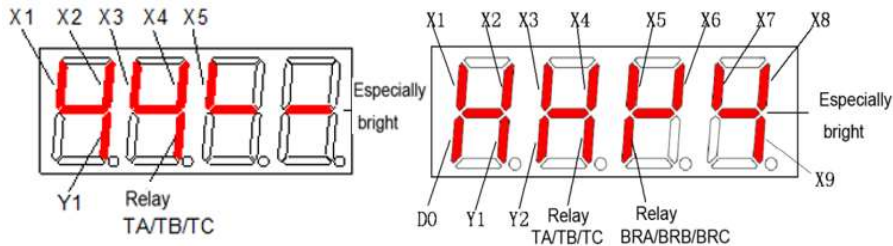

Fig 6-28 Terminal status diagram
- ◆ The terminal status is shown by four digits of LED without unit indicator, the specific meaning shown in figure 6-28.